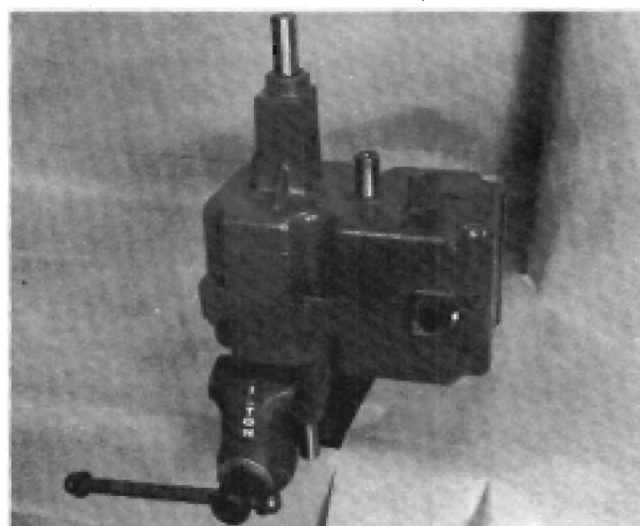

FIGURE 2
4. Remove the two (2) brake band retaining bolts and remove the brake band.
5. Remove the brake drum retaining ring and remove the brake drum using a suitable puller as required. See Figure 2.
6. Remove the six (6) $\frac{3}{8}$ " x 16 bolts and nuts that retain the right hand and left hand cases.